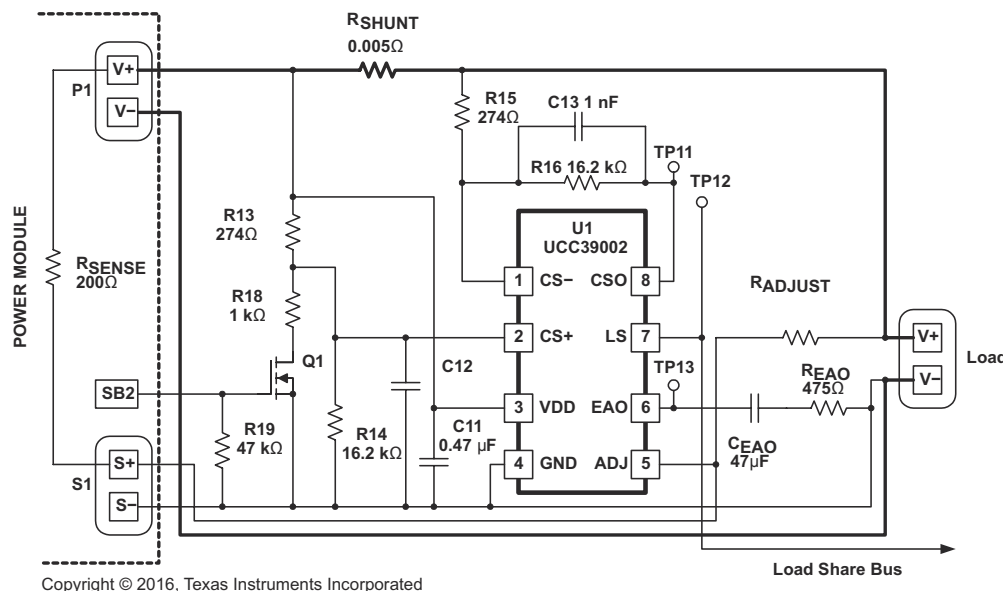

Figure 7-1. Typical High-Side Application for a Single Power Module
Figure 7-1 shows a typical high-side current-sense configuration for a single module which is repeated for each module to be paralleled. Direct connection of the VDD pin to the power module V_{OUT} rail (V+) is valid for V_{OUT} less than 13.5V.
In Figure 7-1, P1 represents the output-voltage connector terminals of the module and S1 represents the remote-sense connector terminals of the module. In this example, a signal on the SB2 terminal enables the disconnect feature of the device. The Load-Share Bus is the common bus between all of the paralleled load-share controllers. The VDD supply must be decoupled with a good-quality ceramic capacitor returned directly to GND.
Referring to Figure 7-1, the DC gain of the CSA is equal to R_{16}/R_{15} , and a high-frequency roll-off pole used for noise filtering is set by C_{13} . These component values are repeated at R_{14} , R_{13} , and C_{12} on the CS+ pin of the differential amplifier, as shown.
where (referring to Figure 7-1)
- A_{CSA} is the DC gain of the Current-Sense Amplifier. (R15, R16 refer to Figure 7-1.)